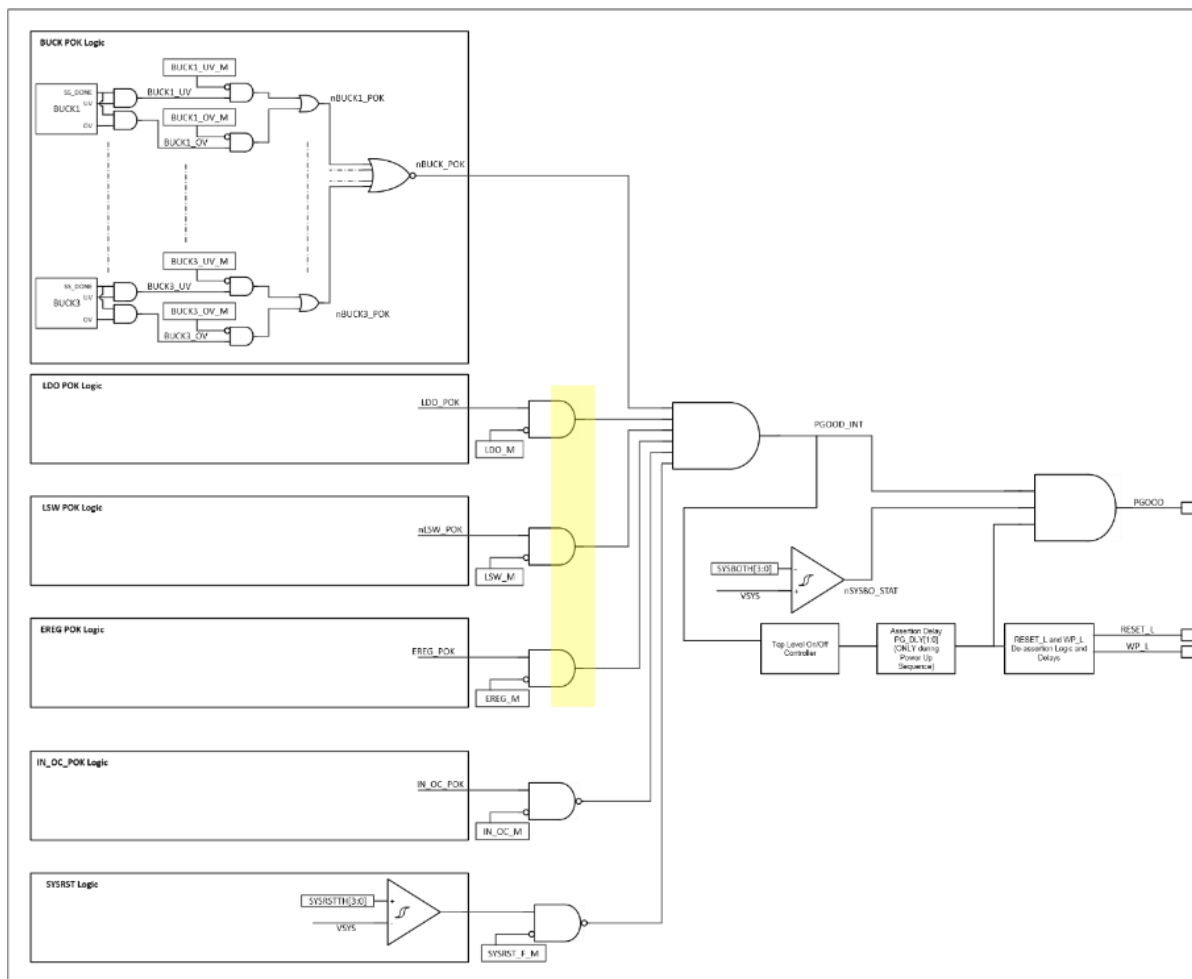

Figure 1. PGOOD logic: Different POK signals, their masks, and the overall PGOOD signal.
- In the GLBL_INTM register, use the SYSRST_F_M bit to mask SYSRST_F_I in the GLBL_INT0 register and to mask the event itself from causing a power-down sequence. See the PGOOD Logic Diagram (Figure 1) for details.
- When the system voltage rises above the rising threshold ($V_{SYS} > V_{SYSBO (RISING)}$), SYSBO de-asserts. This results in the external PGOOD output being allowed to assert (HIGH). Note that PGOOD is also controlled by other events. See the PGOOD Logic Diagram (Figure 1), for more details.
- PGOOD can de-assert at any time if a regulator's undervoltage (UV), overvoltage (OV), or overcurrent (OC) (overcurrent only for Bucks) status signals assert and they are unmasked. Refer to the PGOOD Logic Diagram (Figure 1) below for complete details.